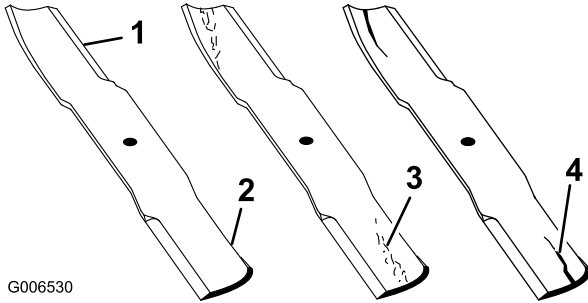

Figure 48
1. Inspect the cutting edges (Figure 48).
2. Inspect the blades, especially the curved area (Figure 48).
Note: If you notice any damage, wear, or a slot forming in this area (items 3 and 4 in Figure 48), immediately install a new blade.